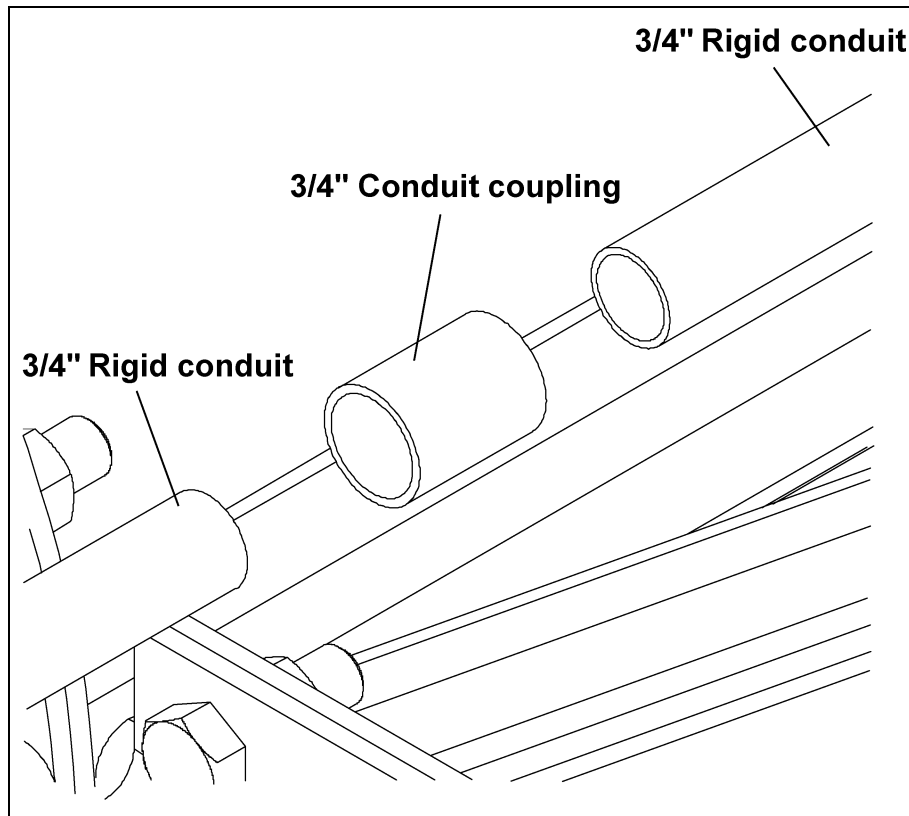

Figure 5AA
- B. Connect the rigid conduit together using one (1) 3/4" conduit coupling between each piece of conduit. (See Figure 5AA.)